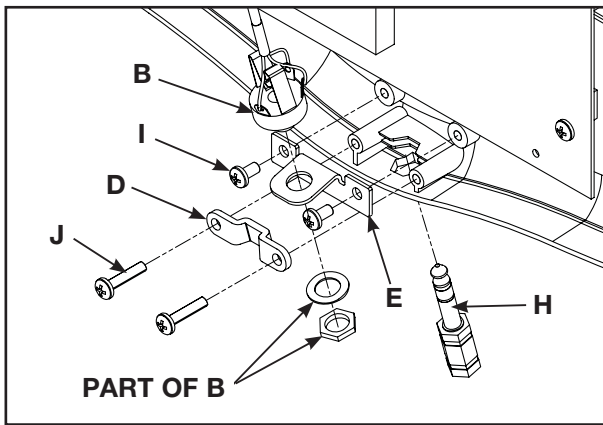

Figure 13
- A. Using a Phillips screwdriver, attach the two screws (I) securing the headphone jack mount bracket (E). See Figure 13.
- B. Attach the audio cable (B) to the headphone jack mount bracket (E) securing it with the flat washer and nut (attached to cable). See Figure 13.
- C. Attach the adapter (H) securing it in place with the headphone adapter clamp (D) and two screws (J). See Figure 13.